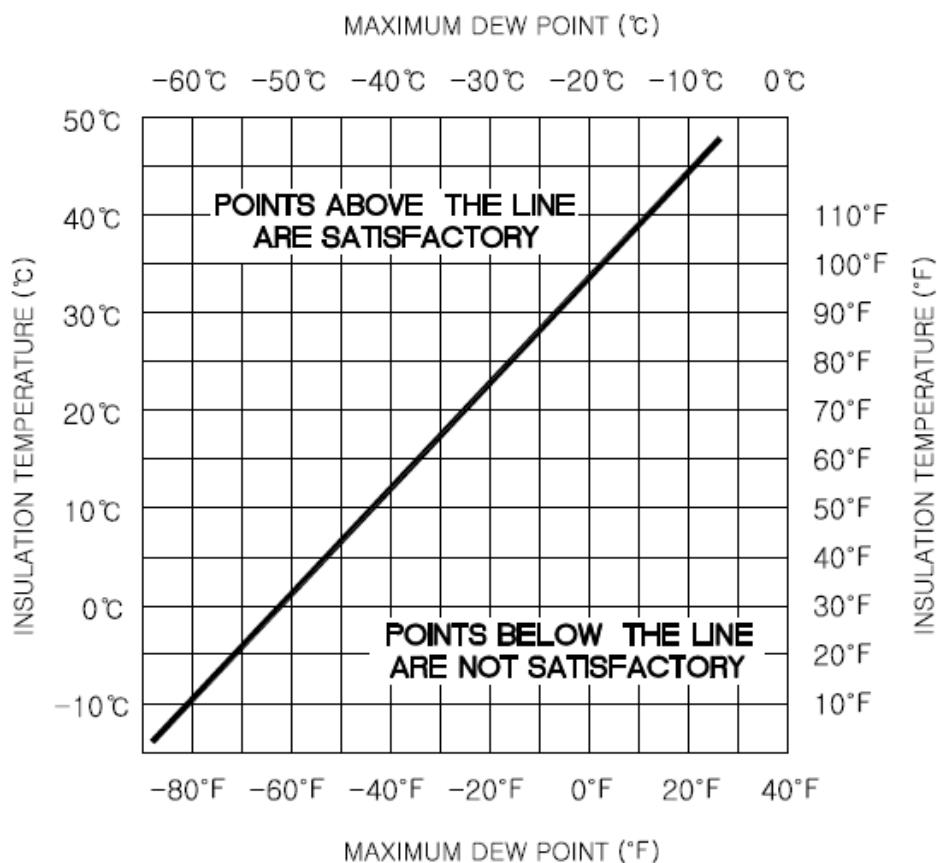

Figure 3.1 Dew Point Limit
2. Check percent moisture content in transformer. It should never exceed dew point in Figure 3.1.
2. Use Figure 3.1 for pressure between 0 and 0.35bar